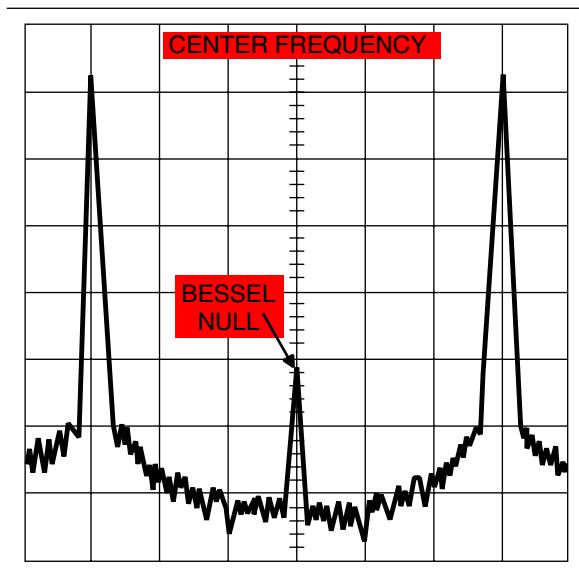

Figure 4-13. Typical Spectrum Analyzer Display of Bessel Null on ΦM Waveform
- e. While observing the first Bessel null (Figure 4-13) on the Spectrum Analyzer display, adjust the value of the DAC's setting to reduce the carrier level as low as possible.
- d. While observing the first Bessel null (Figure 4-13, page 4-41) on the Spectrum Analyzer display, adjust the value of the DAC's setting to reduce the carrier level as low as possible.
- e. While observing the first Bessel null (Figure 4-13, page 4-41) on the Spectrum Analyzer display, adjust the value of the DAC's setting to reduce the carrier level as low as possible.